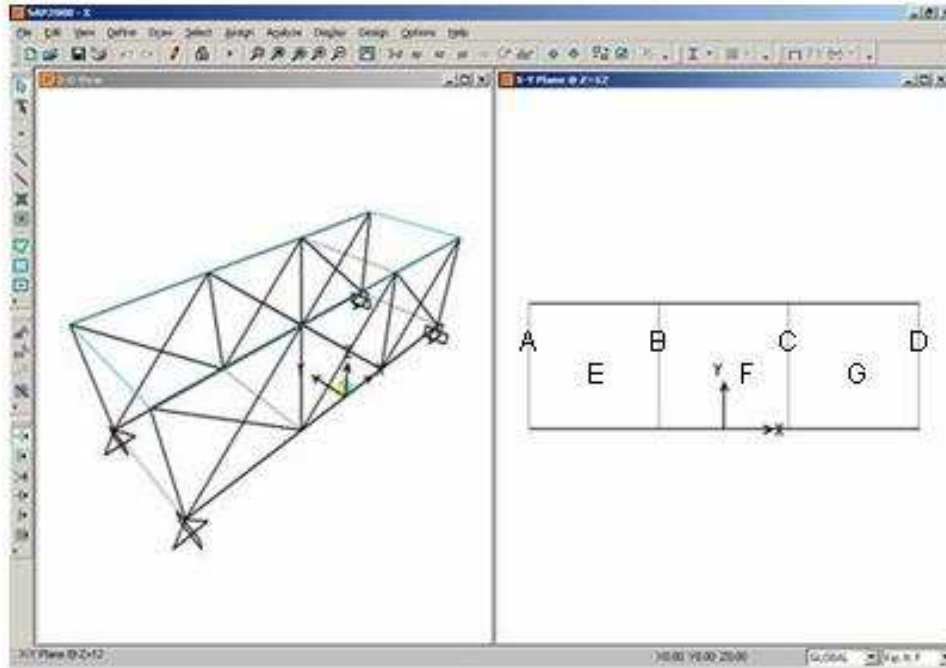

Figure X-1: View of Screen After Step 10
8. Click the **XY View** button  to change the view to an X-Y plan. Note that the title of the window changes to X-Y Plane @ Z=12. The screen appears as shown in Figure X-1.
10. Click on the grid lines at the points labeled “A,” “B,” “C” and “D” in Figure X-1 to enter four frame objects spanning between the two vertical frames.
13. Click on the points labeled “E,” “F” and “G” in Figure X-1 to enter three sets of diagonal frame objects spanning between the two vertical frames.